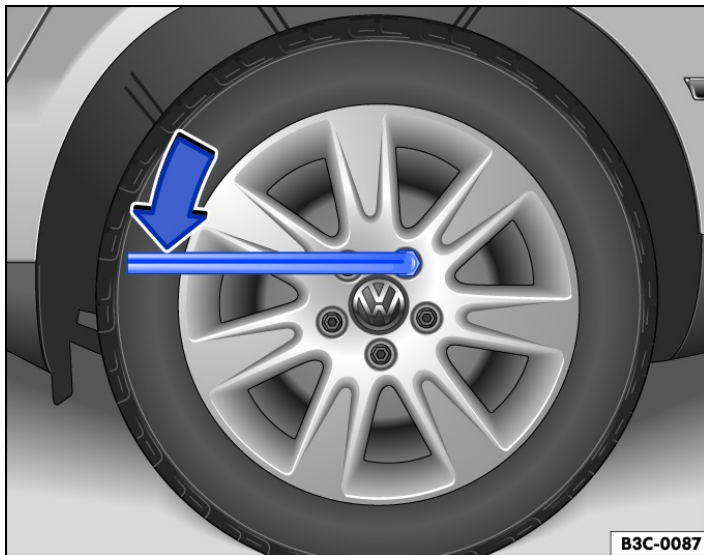

Fig. 1 Changing a wheel: loosening the wheel bolts.
- Fit the box spanner over the wheel bolt as far as it will go → Fig. 1.